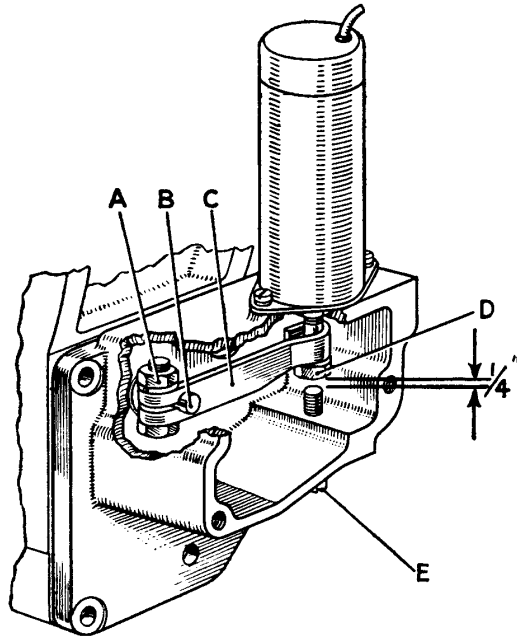

Fig. 8 Adjusting the Solenoid Lever.
It is very unlikely that any maladjustment of the lever will develop to prevent overdrive from releasing. Make sure that there is 1/4" (6.35 mm.) clearance between the solenoid adjusting screw (E) (Fig. 8) and the head of the solenoid bolt when the plunger is lifted. The setting and working of the valve setting lever should be checked as already described, and corrected if necessary.